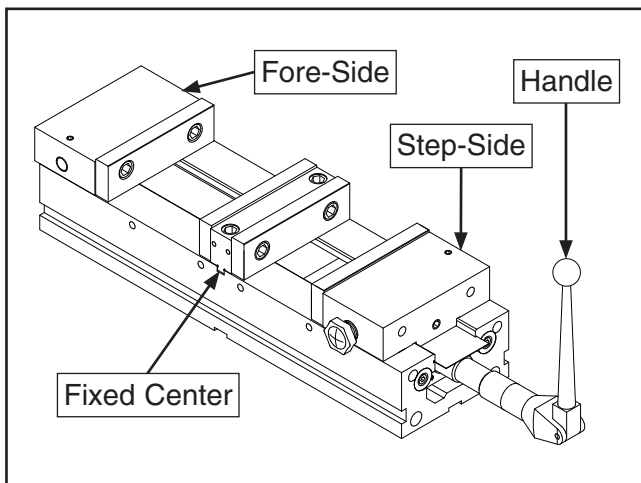

Figure 2. Identifying vise sides.
1. Rotate handle counterclockwise to open vise jaws. Step-side jaws (see **Figure 2**) will open slightly first, then fore-side will open.